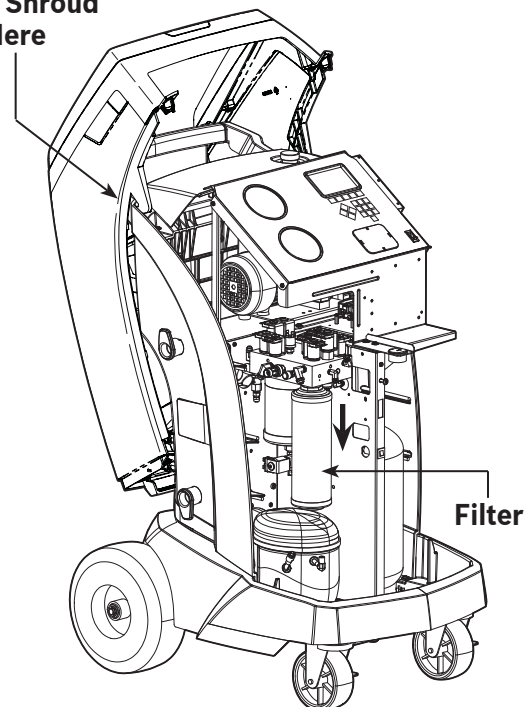

Figure 9
3. Hang the shroud on the back of the machine as shown in Figure 9.
5. Look at the new filter - verify both o-rings are lubricated and correctly located in the grooves as shown in Figure 9.
6. Install the new filter by threading it clockwise into place. Verify the filter is positioned correctly as shown in Figure 9. Tighten the filter to 20 Nm.